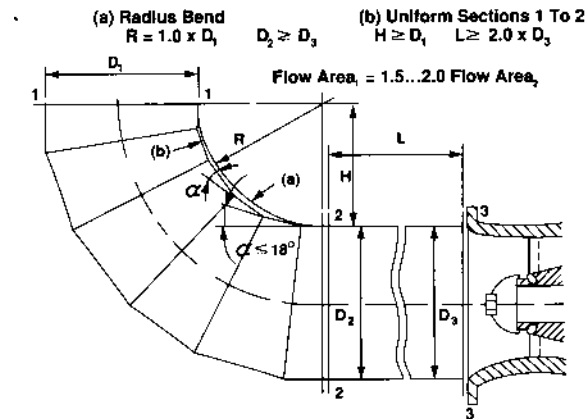

Figure 4.
2. Air intake pipes that do not use the Caterpillar supplied 90° elbow, Figure 4.